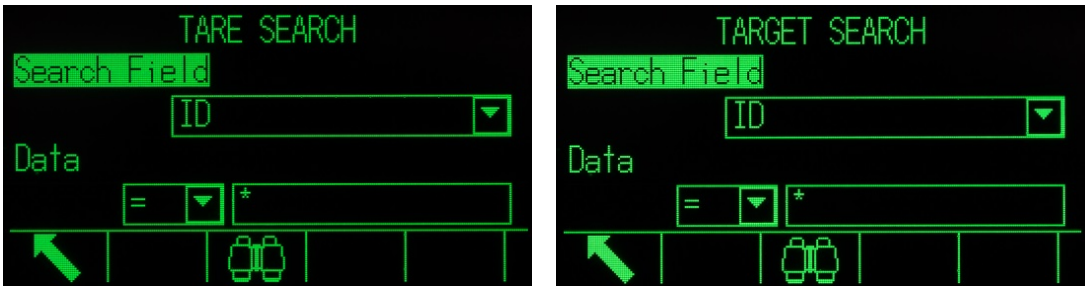

Figure C-3: Tare Table and Target Table Search Screen
- 1. Press the TARE TABLE softkey  or TARGET TABLE softkey  to display the search screen as shown in Figure C-3.
2. Press the VIEW TABLE softkey . The Search screen (Figure C-3) displays.